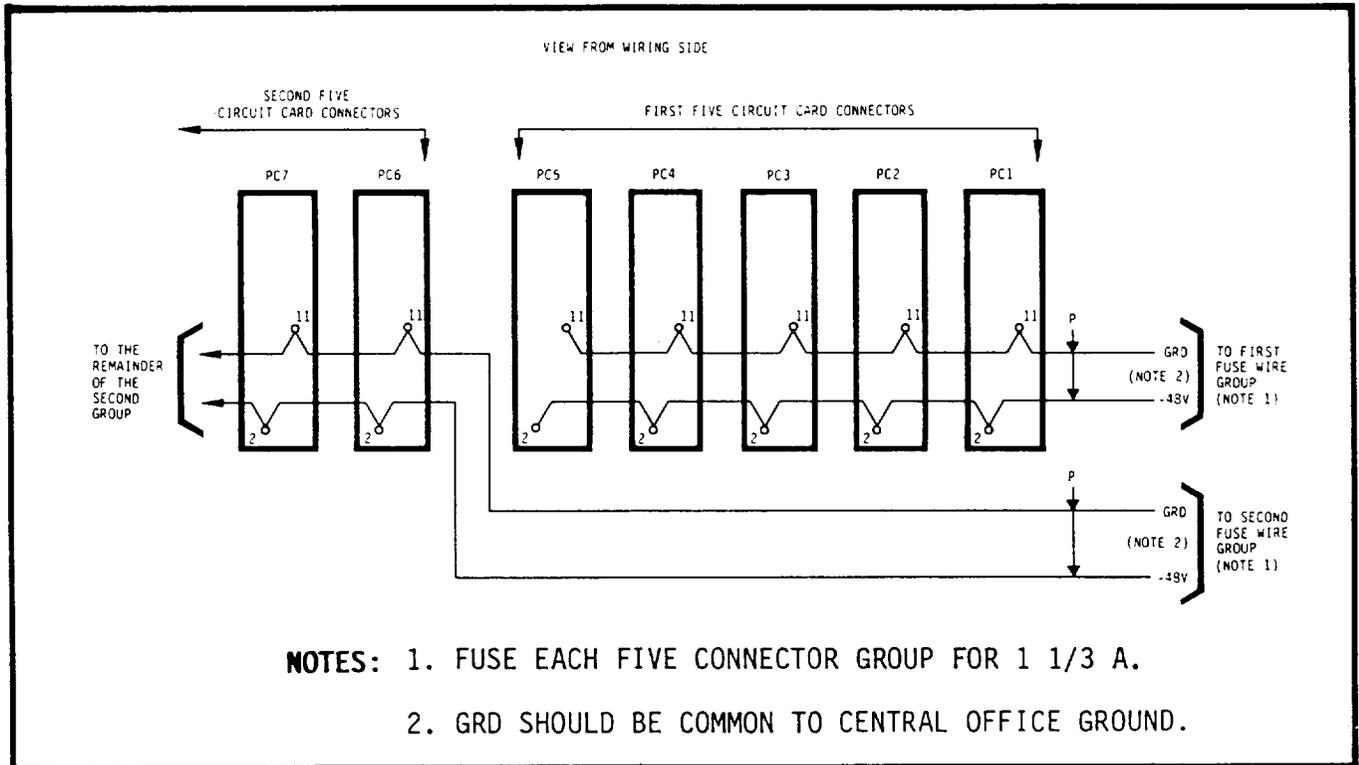
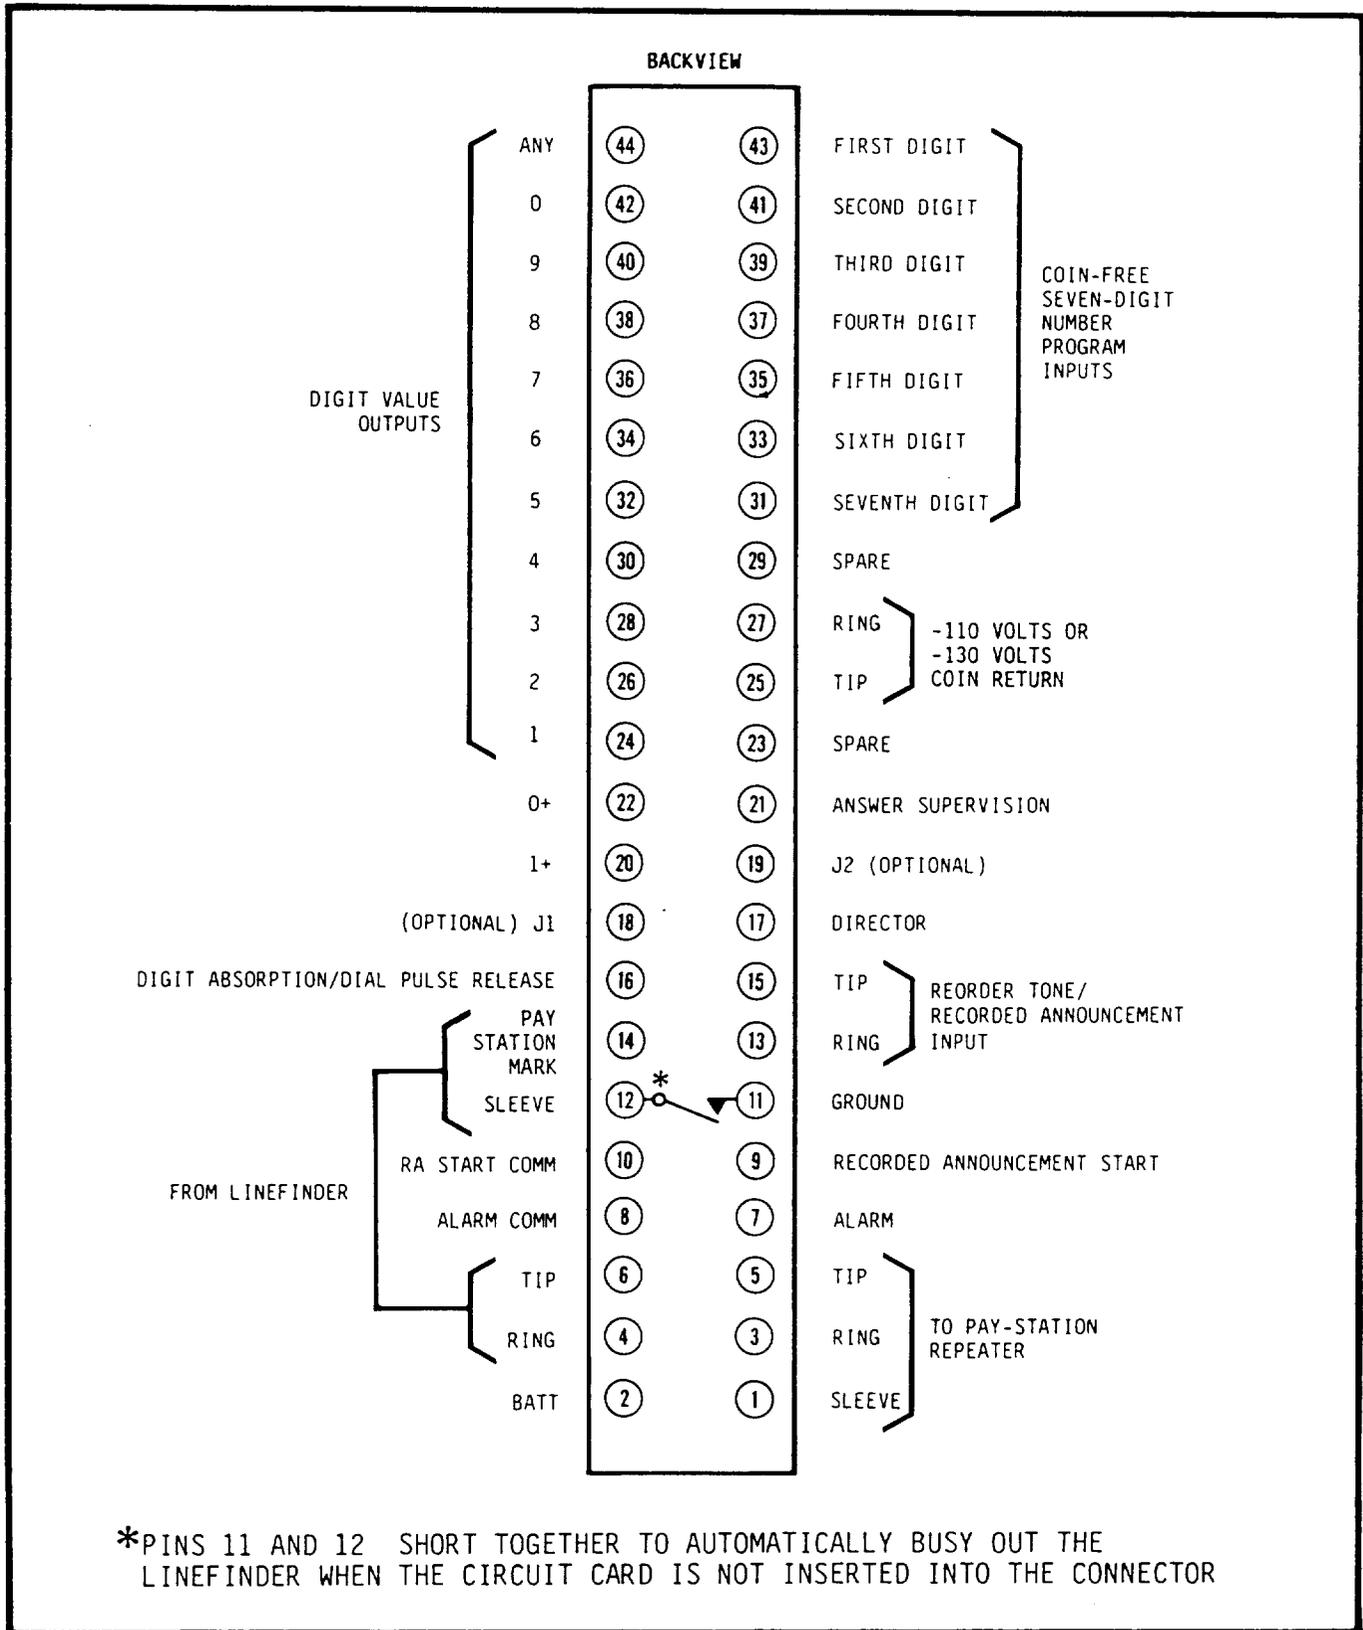
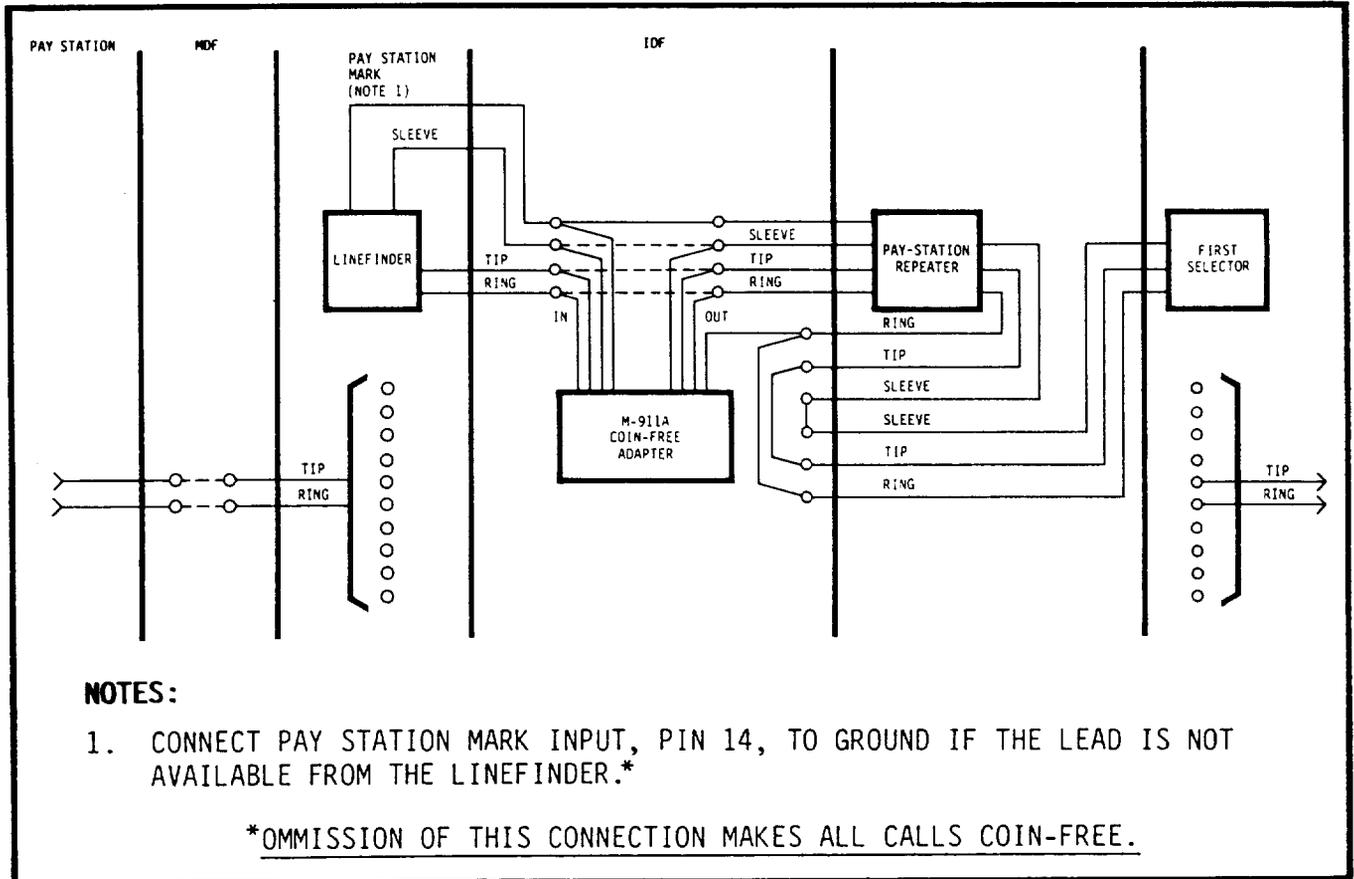

Figure 11 Battery and Ground Wiring
Figure 12 Connector Pins
Figure 13 IDF Wiring
6.10 If the protective back panel of the card file is still in place, remove it by turning each of the captive fasteners on the panel a quarter turn counterclockwise. The battery and ground terminals of the connectors are prewired together in groups of five as shown in Figure 11. Route one twisted pair of 20-gauge or 22-gauge wires from the office fuse panel to the card file location for each five cards being installed. Route these pairs and all other wiring through the access openings in the rear of the card file side panels.
6.11 Wire wrap the ground lead of each pair to pin 11 in each group of five connectors used, as shown in Figure 11. The ground on pin 11 should be common to the central office ground. Pin 11 is the sixth pin up from the bottom in the right-hand row of the connector as shown in Figure 12.
Connect the battery leads of each pair to pin 2 in the same five connector group as shown in Figure 11. Pin 2 is the bottom pin of the left-hand row as shown in Figure 12. Each pair should be fused for 1-1/3 amperes.
6.13 Connect the output of the reorder tone source to pins 13 and 15. If the reorder tone source output is a single wire, connect the output to pin 13 and connect pin 15 to ground on pin 11 (see Figure 12).
6.14 Connect the Adapter to a reorder announcement source of no more than 8 ohms impedance. Connect this source to pins 13 and 15 of the connector. If the recorded announcement source output is a single terminal, connect the terminal to pin 13 and connect pin 15 to ground on pin 11 (see Figure 12). The reorder announcement start function should be wired to pins 9 and 10 of the connector.
6.23 Each M-911 is wired between the linefinder and its associated pay-station repeater, as shown in Figure 13. At most installations the leads to and from the M-911 simply replace existing IDF jumpers (shown as dotted lines in Figure 13) between the linefinder and the repeater. The specific connector pins to which the leads are connected are shown in Figure 11. Manually busy out the linefinder before starting this wiring. Particular care should be taken not to reverse the polarity of the Tip and Ring pairs, since such a reversal will cause the M-911 to malfunction. Complete the wiring described in the following four paragraphs for each card connector.